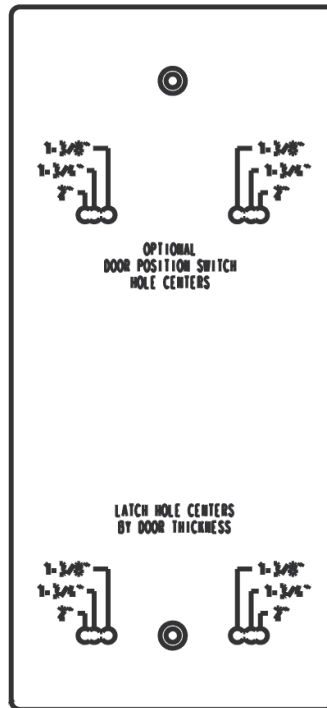

Figure 2-6 –Door Edge View
- 2.5.1.1.14 On the door edge of the Jig, mark the non-bearing Latch Hole Center that is appropriate for the thickness of the door (Figure 2-6).
- 2.5.1.1.15 If a door position switch is to be installed, then on the door edge of the Jig, mark the non-bearing Door Position Switch Hole Center that is appropriate for the thickness of the door (Figure 2-6).